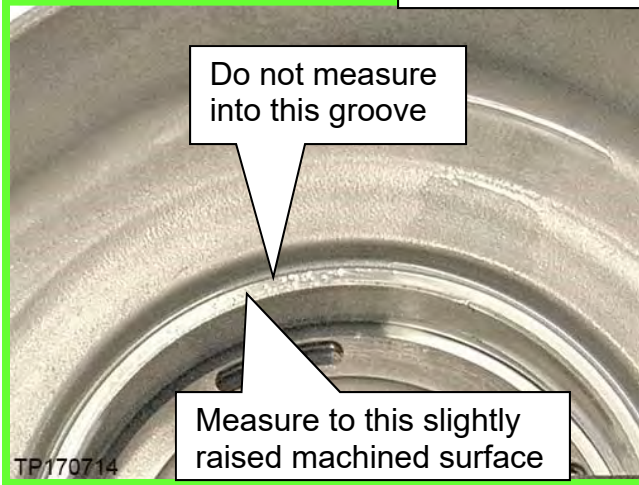
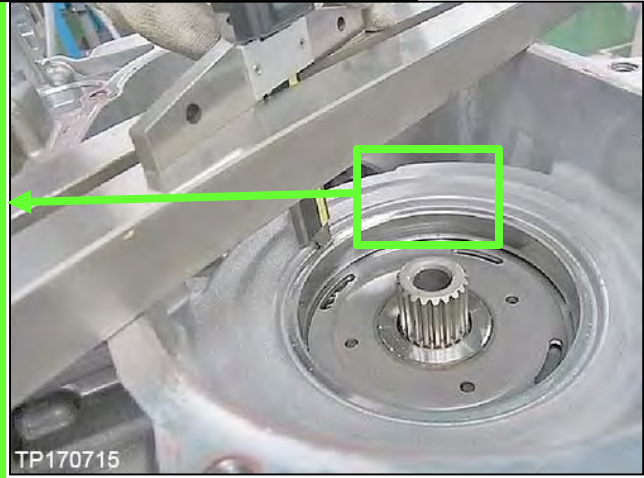

Figure 134
Figure 135
- a. Measure between the top of the Gauge Block (J-50271) to where the snap ring on the secondary pulley bearing seats in three (3) locations to calculate an average for measurement "Y" (Figure 134 and Figure 135).